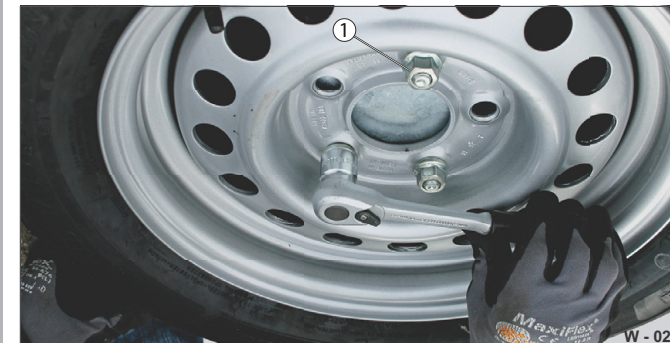

Fig. 26 Attaching a spare wheel
- Use a torque wrench (80 Nm) to check that the nuts / screws (Fig. 26 /1) of the spare wheel holder are secure.